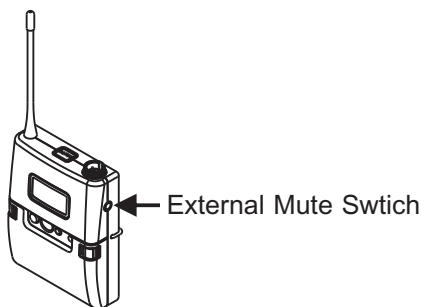

Fig. 15
6. External Mute Switch connector, Fig. 15.